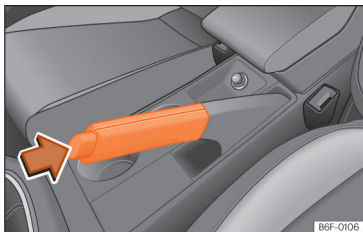

Fig. 121 Parking brake between the front seats.
- Pull the parking brake lever up »» **Fig. 121**.
- Pull the lever slightly up, press the unlock button in the direction of the arrow »» **Fig. 121** and lower the lever completely »» .